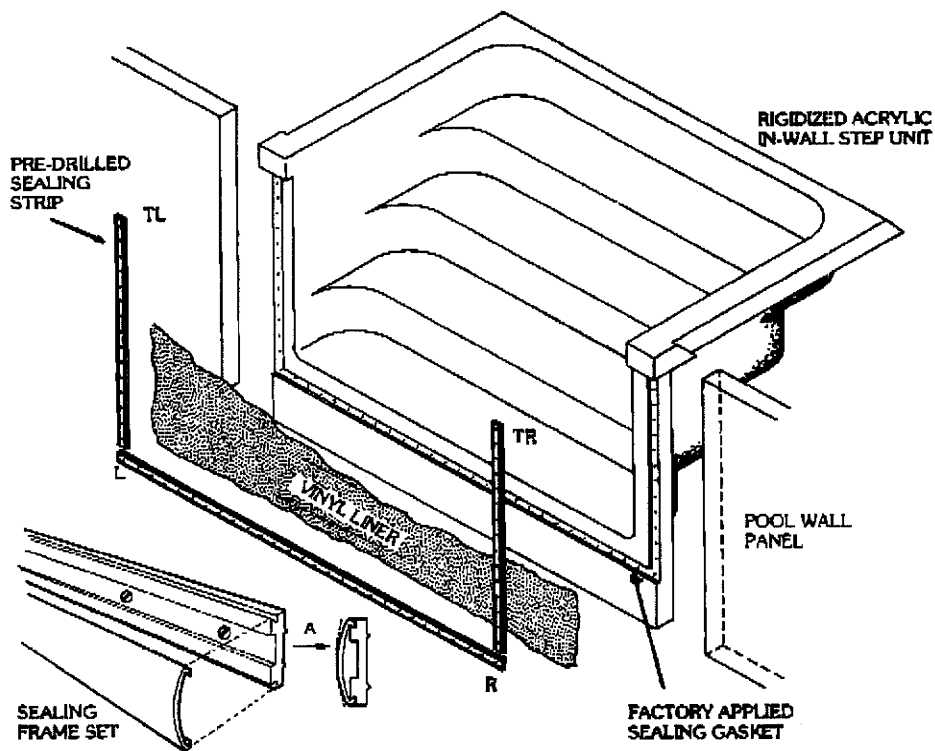

FIGURE 1. — Typical for all International In-Wall Steps
14. Install the beauty strips by tipping one edge into the strip lip, Fig. 1. Pressure applied at "A" with a wooden dowel or small screwdriver handle will cause the beauty strips to snap into the other frame lip. Movement of the dowel, while still applying pressure, along the length of the strip will cause the cover to "zip" into place with little effort. Any excess cover material can be trimmed with snips before the covers are totally installed.